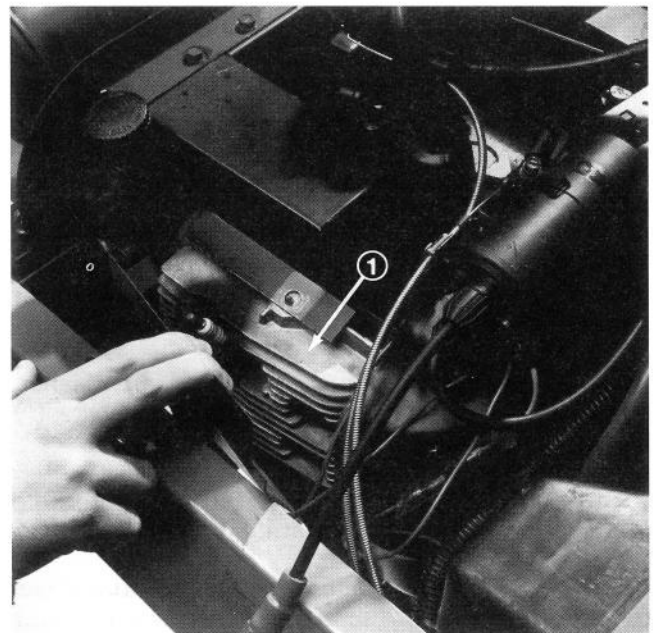

Figure 59
3. Prying housing away from engine, clean dirt, grass and chaff from outside of cylinder and cylinder head fins (Fig. 59).